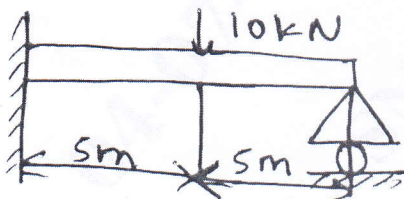

Fig.Q10(b)
b. For the beam element shown in Fig.Q10(b), determine deflection under the given load.